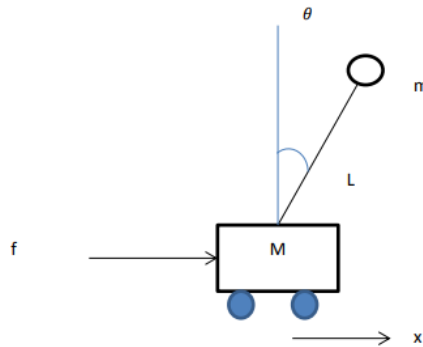

Figure .Q2C
- 2C.** Derive the equation of motion for the simple inverted pendulum problem as shown below by Lagrangian formulation (Fig. Q2C). **04**